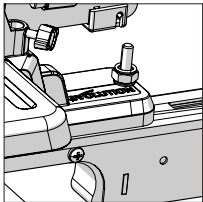

Fig. 9
- Attach the machine to the saw mounting brackets using suitable bolts, washers and locknuts etc. The locking handles must be positioned to the front of the mitre saw. **(Fig. 9)**